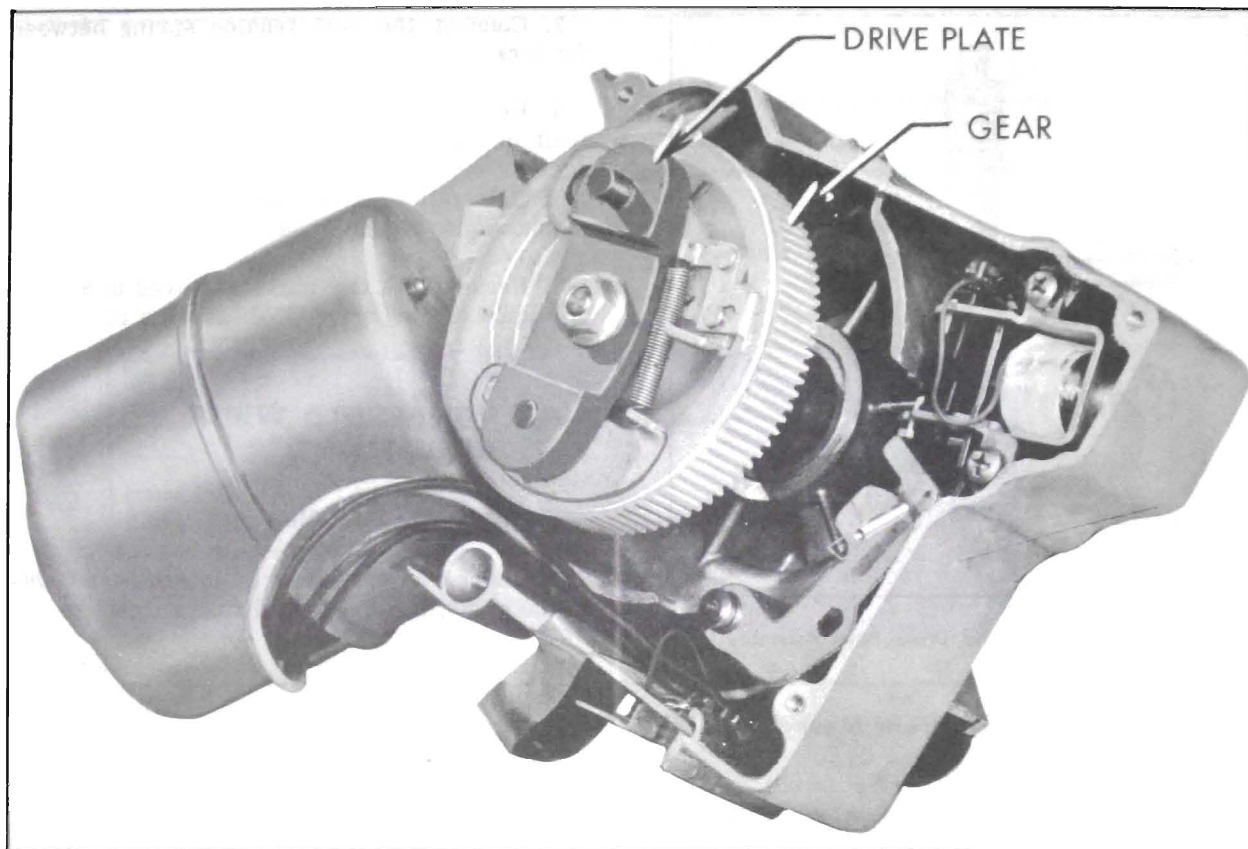

Figure 1-34—Installing Gear and Shaft Assembly
5. Reinstall gear mechanism in the housing as shown in Figure 1-34.